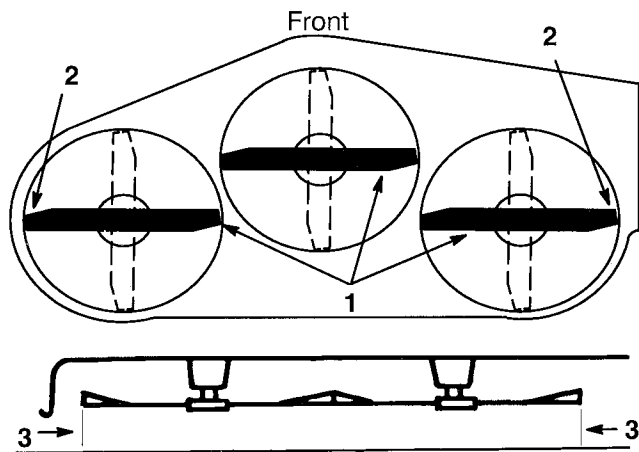

Figure 7
3. Carefully rotate blade(s) side to side (Fig. 7). Measure between the outside cutting edges and the flat surface (Fig. 7). If both measurements are not within 3/16" (4.762mm), an adjustment is required; refer to steps 4 and 6.